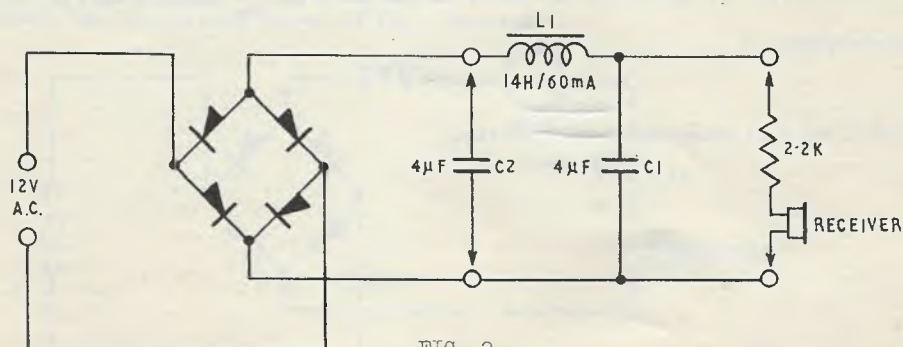

FIG. 2.
STEP 5. Connect the inductor (L) in circuit as shown in Fig. 2.
STEP 7. Connect the capacitor C2 into circuit as shown in Fig. 2. Listen across the receiver and note the effect in ripple level.